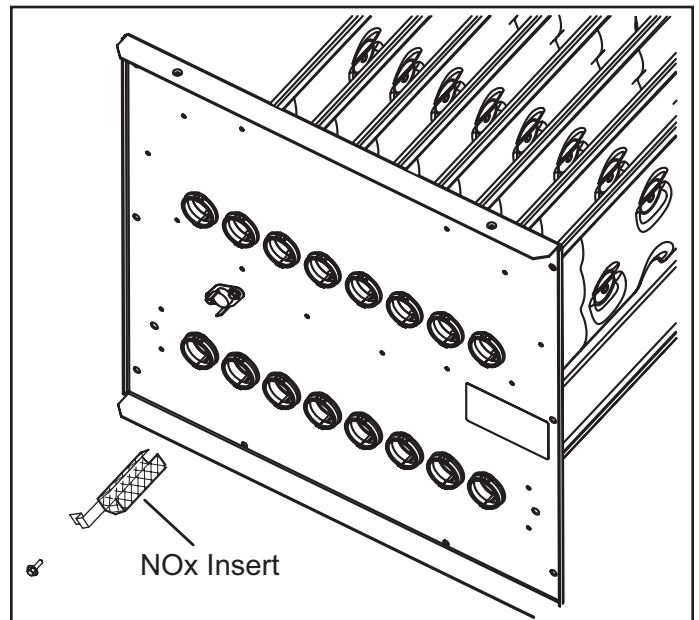

Figure 20. NOx Inserts
7. NOx units only - Remove screw securing NOx insert. Remove NOx insert. See Figure 20.